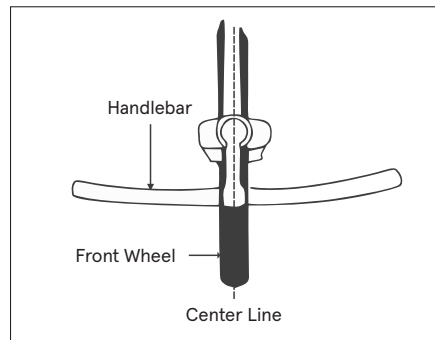

Fig. 13
- 2.** Align the handlebar stem with the front wheel (See Fig. 13). Securely tighten the stem bolt(s). Note: Some models require a 6mm hex key. (Tightening torque: 18N.m or 14foot lbs.torque).
- 2.** Align the handlebar stem with the front wheel (See Fig. 13). Securely tighten the stem bolt(s). Note: Some models require a 6mm hex key. (Tightening torque: 18N.m or 14foot lbs. torque).
- 4.** Be sure that your handlebar and stem assembly is properly tightened before riding. The handlebar and stem should not rotate in the stem up or down or in the fork from left or right (Fig. 13).